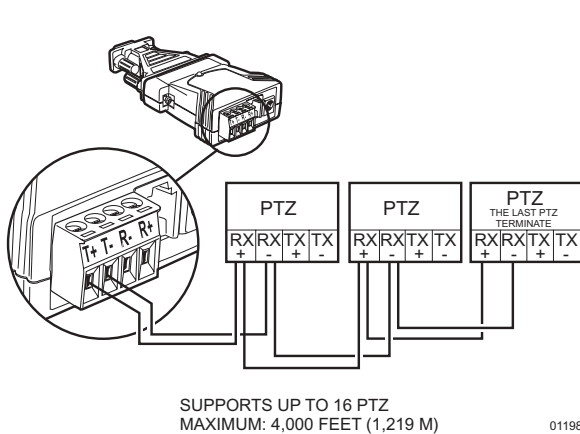

Figure 3. Multiple PTZ Installation
1. Connect the control wires from the receiver to the RS-422 converter. The DX7000 can support up to 16 PTZ devices. To connect more than one PTZ to the system, refer to Figure 3.